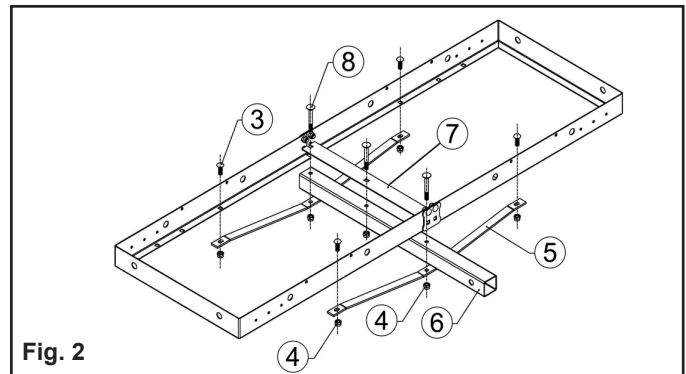

Fig. 2
- Figure 2:** Place the tie plate (part# 7) in the middle of the top of the frame, aligning the holes on each end with the holes in the frame.
- Figure 2:** Add the 2" draw bar (part# 6) directly beneath the tie plate, under the frame. **Note: The three (3) holes in the top of the draw bar must be aligned with the three (3) holes in the tie plate.**
- Figure 2:** Thread an M10x75 carriage bolt (part 8) through the center hole of the tie plate, through the middle hole of the draw bar, and hold it loosely in place with an M10 lock nut. Place the other two (2) M10x75 carriage bolts through the holes at each end of the tie plate, *but do not secure them with lock nuts until the next step.*
- Figure 2:** Place the support bridges (part# 5) under the draw bar, aligning their center holes with the M10x75 carriage bolts on each end of the tie plate, and hold the support bridges loosely in place with M10 lock nuts. Each end of the bridge supports will then be mounted to the edge of the frame using four (4) M10x20 carriage bolts (part# 3) and M10 lock nuts.